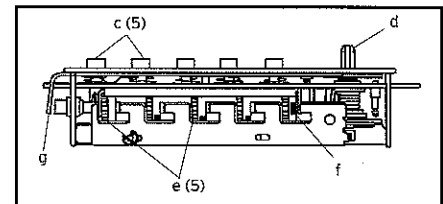

Fig. 3
- 4 Look at the 5 code gears (e). If any code gear pockets (f) are already at the shear line (open position), ignore them. They are not used in the combination (See Figure 3).
- 5 Find the code gear pocket/s (f) that is farthest away from the shear line (open position). Depress that key-stem/s (c) and release (See Figure 3). If any digits in the combination were depressed together (at the same time), then these must be depressed together to reset the code.
- 6 Find the code gear pocket/s (f) that is the next farthest away from the shear line (open position). Depress that key-stem/s (c) and release (See Figure 3).
- 13 Look at the code gear pockets (f). The numbers in you new combination should not be at the shear line (open position) (See Figure 3).